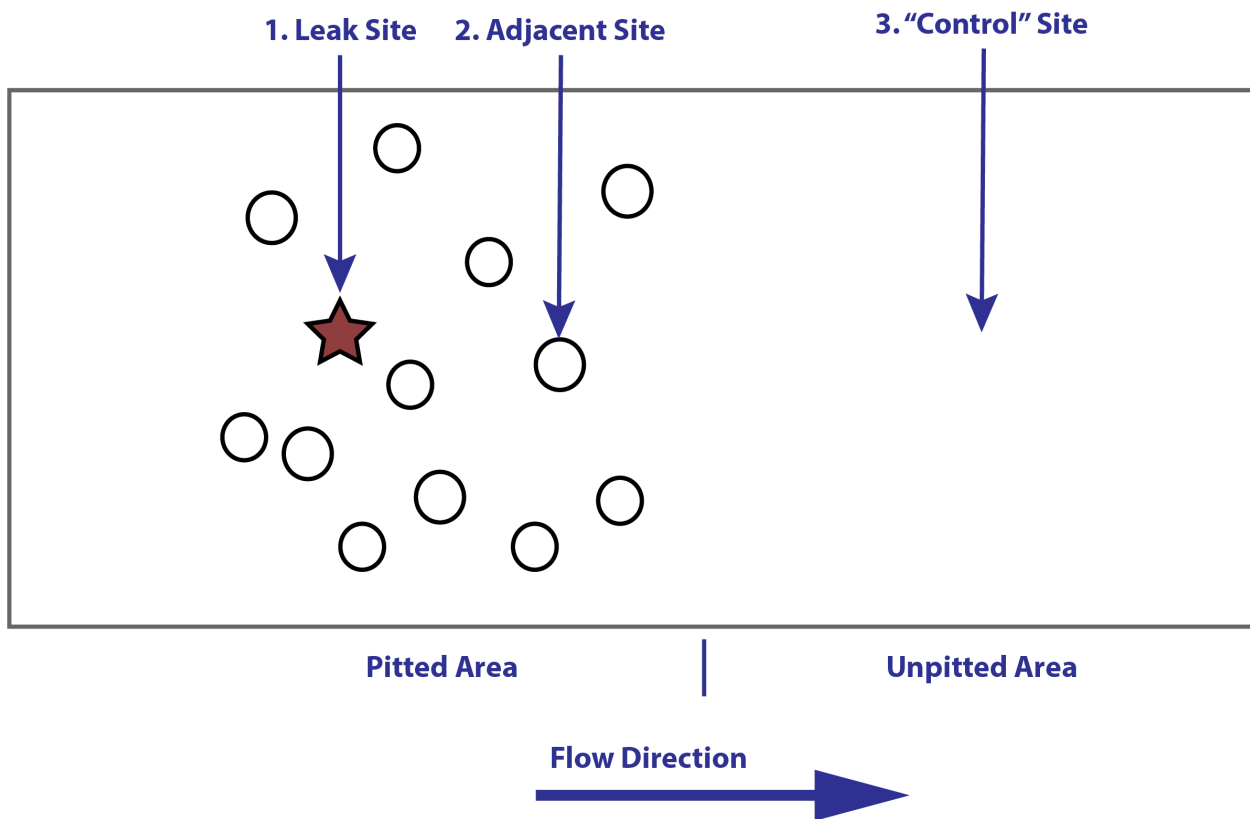

Figure 8: Internal sampling locations around a leak.
**Ideal locations for solid samples collected from internal surfaces (Figure 8)**
### Sampling Interior of Pipelines for Genomics Analysis (Figure 8)
Figure 8: Representation of steps to be followed while collecting pipe solids samples for genomic analysis. (A) Take one sterile cotton swab from the package, (B) Collect sample from the surface of the pipe using the sterile cotton swab (moisten if needed), (C) Break off excess wooden portion of the cotton swab so that it fits into the conical tube when closed, (D) Label the tube and take one more sample to get a replicate and seal both the samples in the Ziploc bag, (E) Transfer this Ziploc bag to an insulated container and place ice packs next to the sample bag,